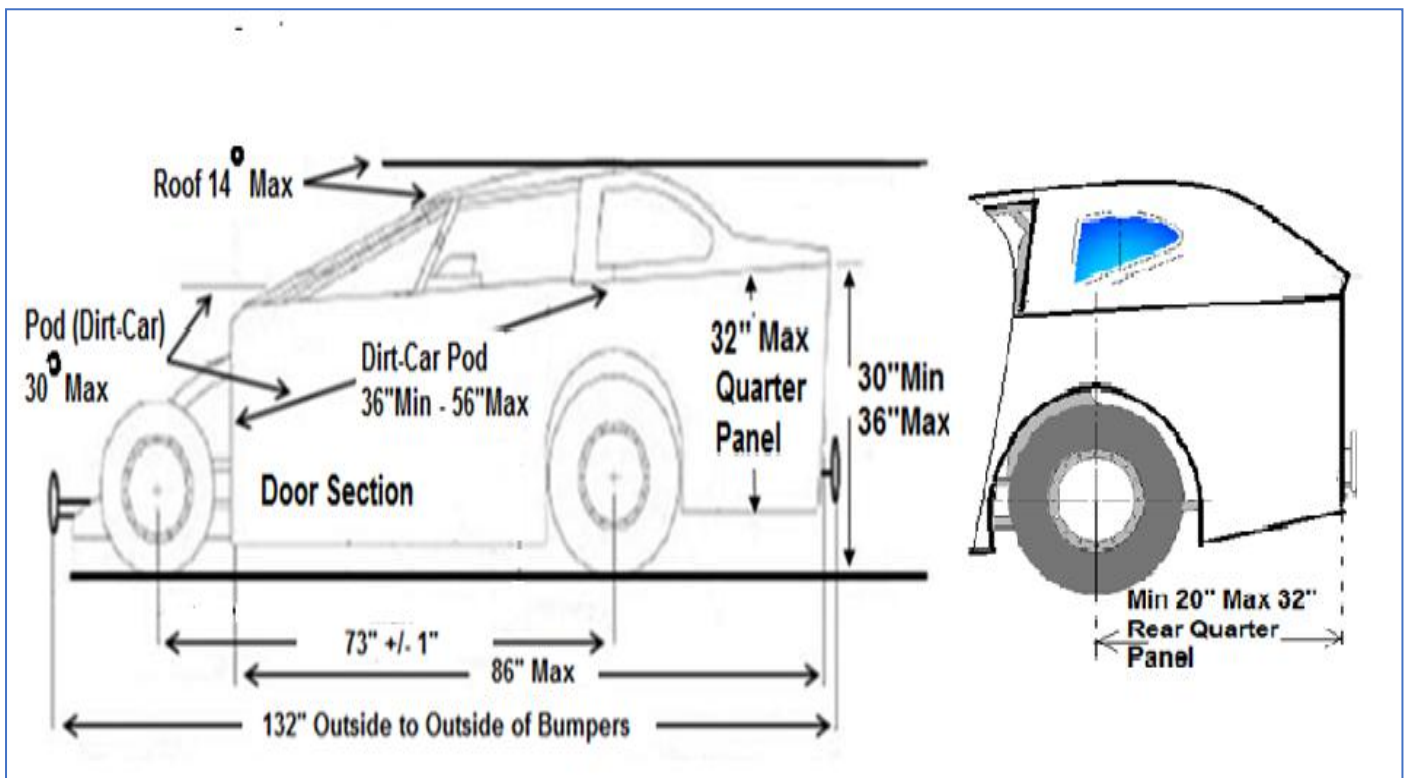

Figure 3
the front and rear hubs with the front and rear tyres aligned parallel with each other on the side being measured. *(Figure 3 & 4).*
7.6 Front of door section to the rear most point of the quarter panel — must not exceed 86 inches. *(Figure 3).*
7.7 Side height of the top of rear quarter panel (deck lid) to the ground --- 30 inches min, 36 inches max (No tolerance) *(Figure 3).*
7.8 Max height of quarter panel 32 inches (No tolerance) *(Figure 3).*
7.11 Rear quarter length from centre of rear hub to rear of quarter panel must be 20 inches min, 32 inches max (No tolerance) *(Figure 3).*
9.2 The top face of the roof panel must be a flat in design. An imaginary line between the front edge and rear edge of the roof panel must not exceed 14 degrees angle of rake relative to the frame rail (*Figure 3*). To achieve this there should be less than 10 inches in vertical height difference between the front and rear edges of the roof panel. No upward facing deflectors of any type on upper side of the roof panel including front and rear edges.